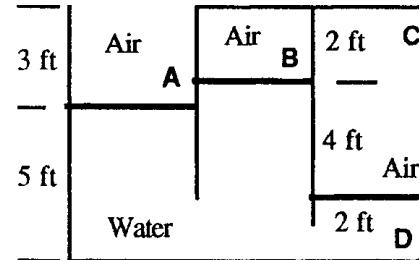

Fig. P2.17
**2.17** All fluids in Fig. P2.17 are at 20°C. If  $p = 1900 \text{ psf}$  at point A, determine the pressures at B, C, and D in psf: